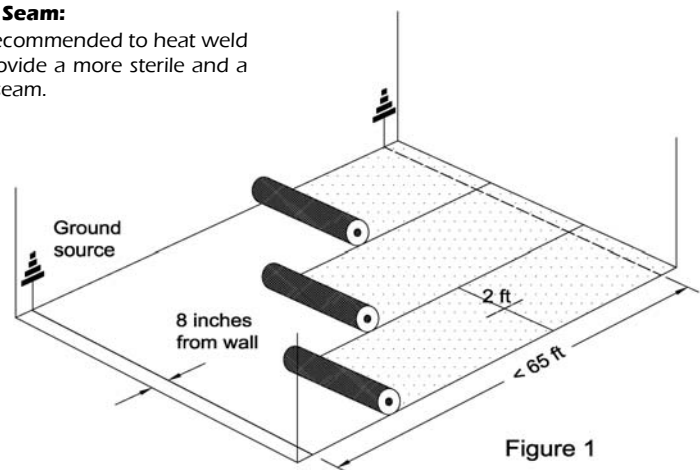

Figure 1
- g. Fold back the sheets and install copper grounding strips as seen in Fig. 1. A copper grounding strip is placed across the width of the sheets approximately 8 inches from the wall. The copper grounding strips should extend up the wall to a known ground.
- h. All end/head seams must have a 2 foot section of copper grounding strip as seen in Fig. 1.